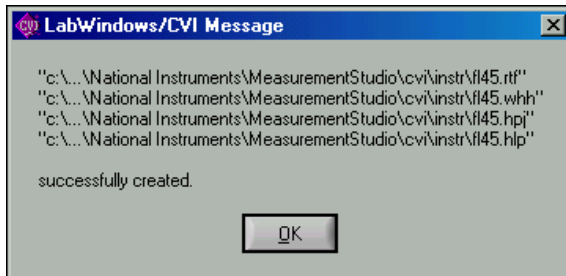

Figure 5-24. LabWindows/CVI Message Dialog Box
4. Click **OK**. A message appears as shown in Figure 5-24.